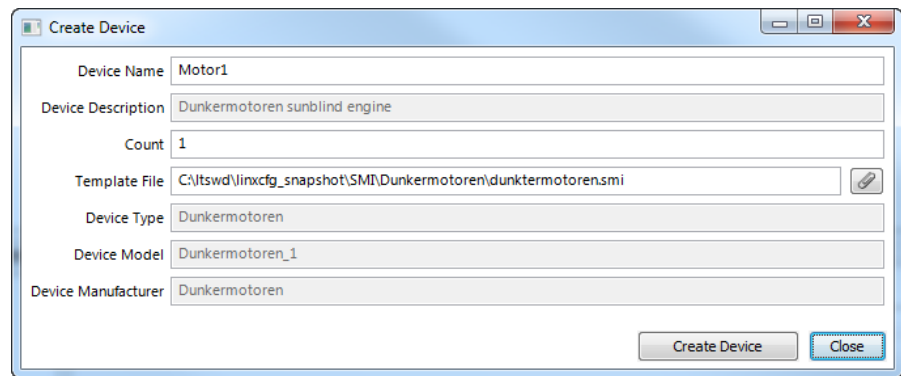

Figure 158: SMI device creation dialog
3. In the **Create Device** dialog enter a Device Name and a Count of devices to be created as shown in Figure 158.